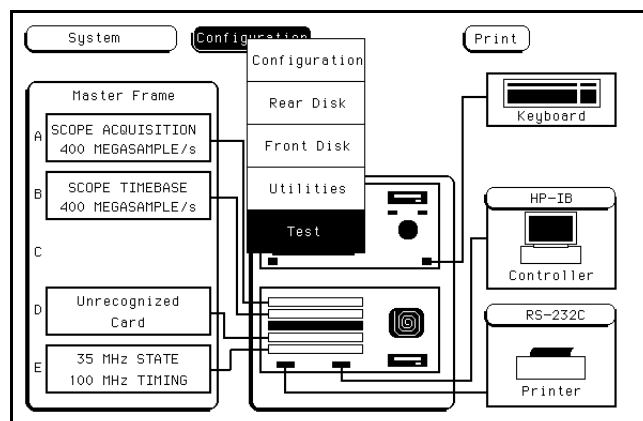

Figure 6-2. Startup Screen
2. From the startup screen, shown in figure 6-2, touch the **Configuration** field. Then, touch **Test** in the pop-up menu.